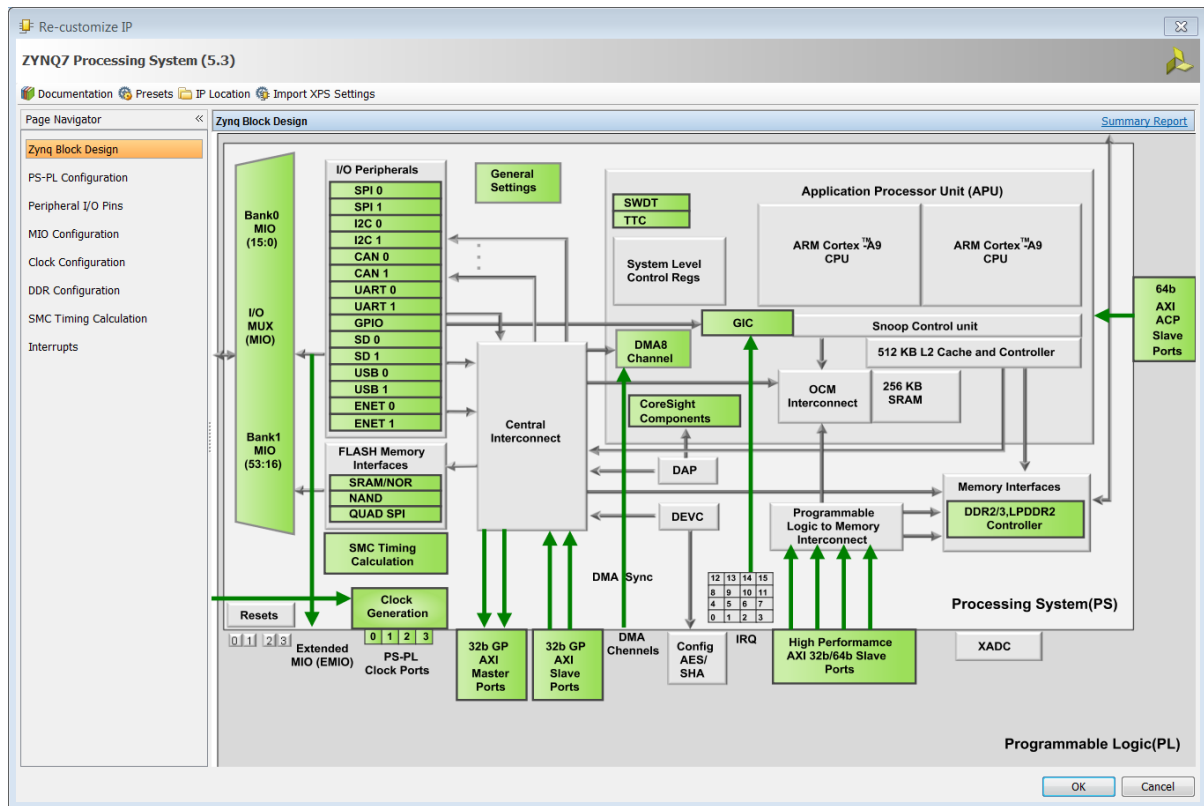

Figure 2-5: Zynq Block Design/Configuration Dialog Box
3. Double-click the processing system graphic to invoke the **Re-customize IP** process, which displays the Re-customize IP for the ZYNQ7 Processing System dialog box as shown in Figure 2-5.
Alternatively, you can select the options from the Page Navigator on the left, as shown in Figure 2-5.